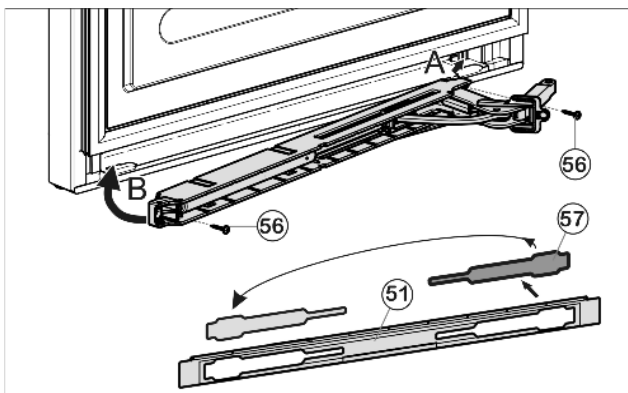

Fig. 23
- ▶ Loosen cover Fig. 23 (57) from the panel Fig. 23 (51) and insert on the other side.
- ▶ With the hinge of the soft stop unit facing the door hinge side, engage the soft stop unit (A) and swivel inwards (B).
- ▶ Tighten soft stop unit (2 x Torx 15) Fig. 23 (56).